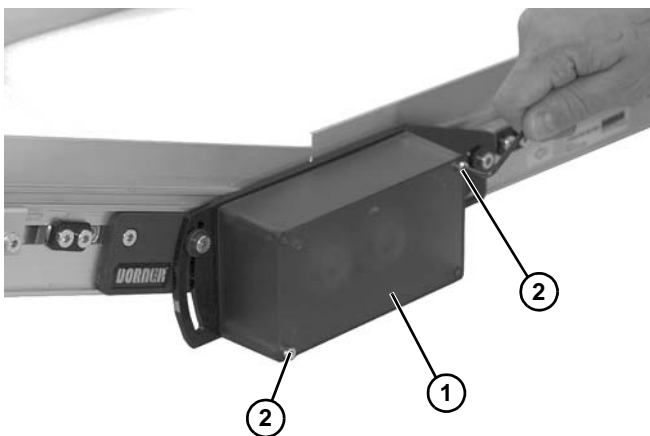

Figure 24
16. Install cover (Figure 24, item 1) and two screws (Figure 24, item 2). Tighten screws enough to secure cover.